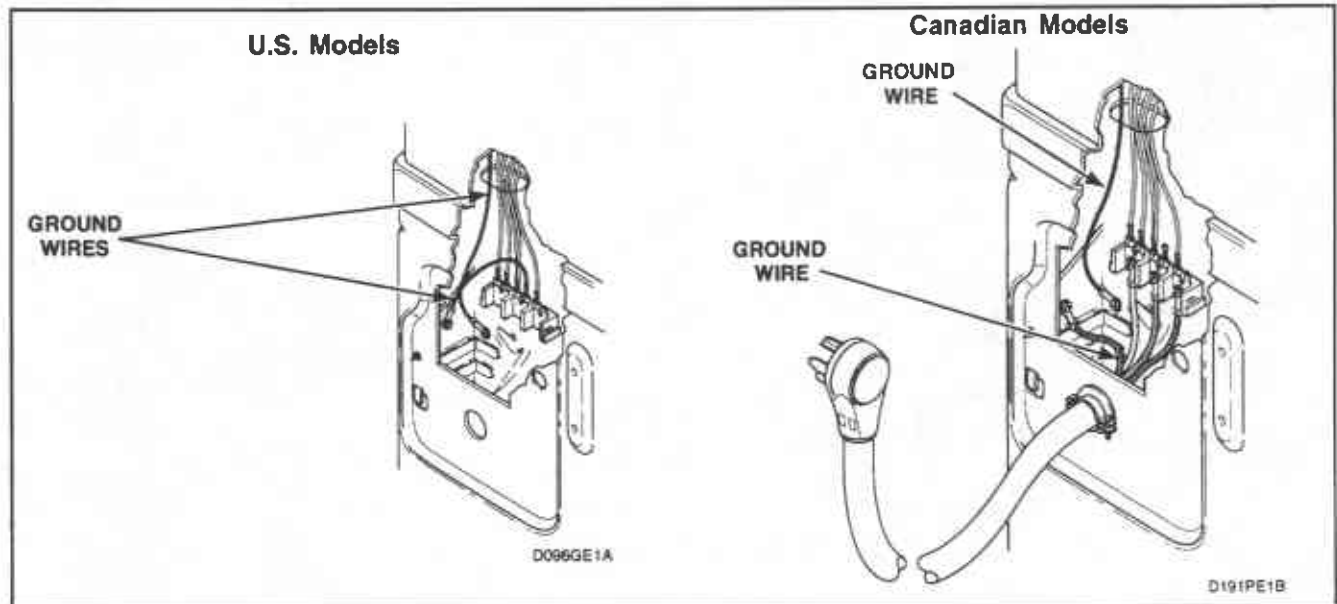

Figure 2
2. NEUTRAL AT TERMINAL BLOCK TO REAR BULKHEAD AND FROM REAR BULKHEAD TO CONTROL HOUSING (Electric Models Only — Figure 2).